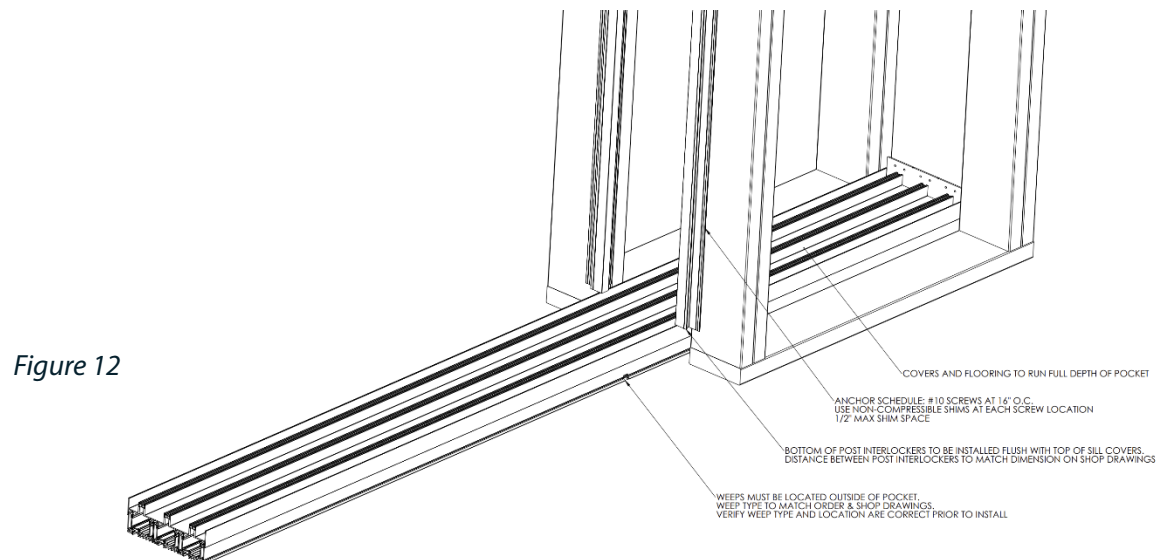

Figure 12
1. Snap the fin on to the bottom of the lead panel with a soft mallet or dead blow hammer. The bottom of the panel will have the glass tempering mark "bug" located in the corner. See figure 12